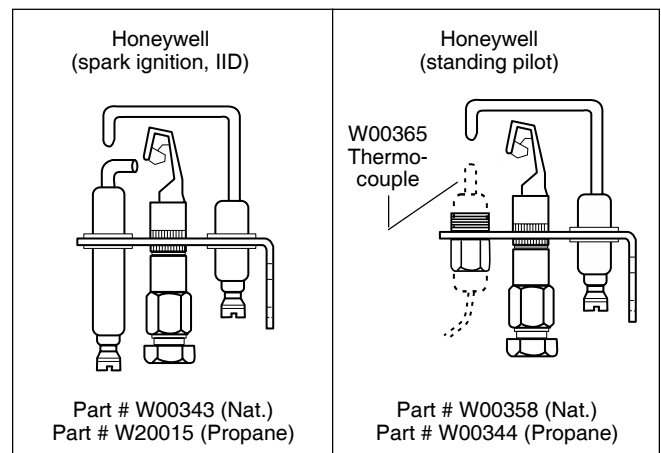

Figure 14. Pilot Burners.
- b. Turn off all manual gas valves and wait five minutes (Figure 14).